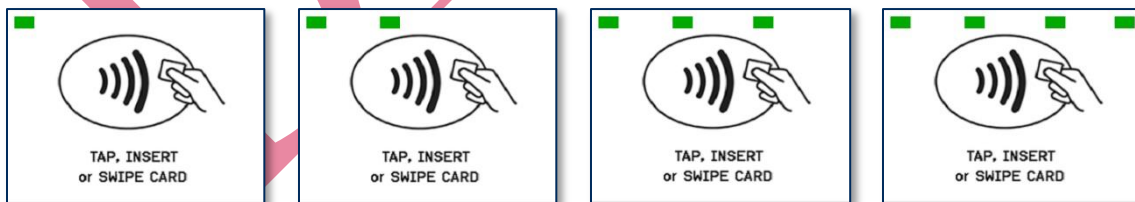

Figure 6-22 - Tap Read Is Complete
- 4) Briefly hold the card, smartphone, or other contactless payment device over the contactless landing zone, indicated by the EMVCo Contactless Indicator symbol on the device's face (see Error! Reference source not found.). The device quickly shows two solid green rectangles at the upper left to show it is processing, then three rectangles to show it has successfully read the tap, then four rectangles to show the read is complete (see **Figure 6-22**). The device also beeps when the read is complete.